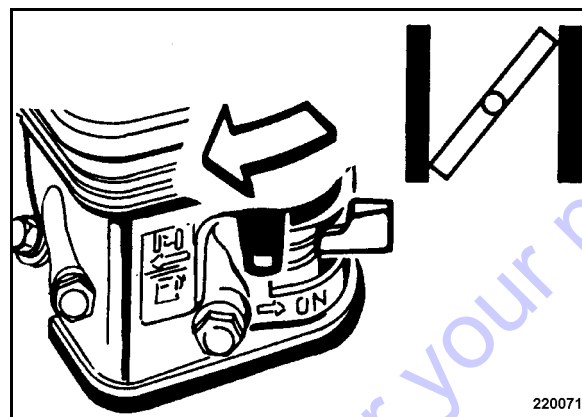

Fig. 19
- If the engine stops again after approx. 3 to 5 seconds, close the choke again with the lever (Fig. 19) and repeat the starting process.